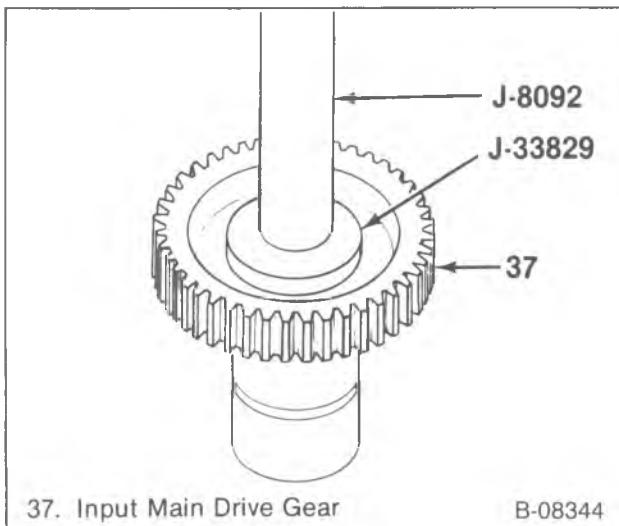
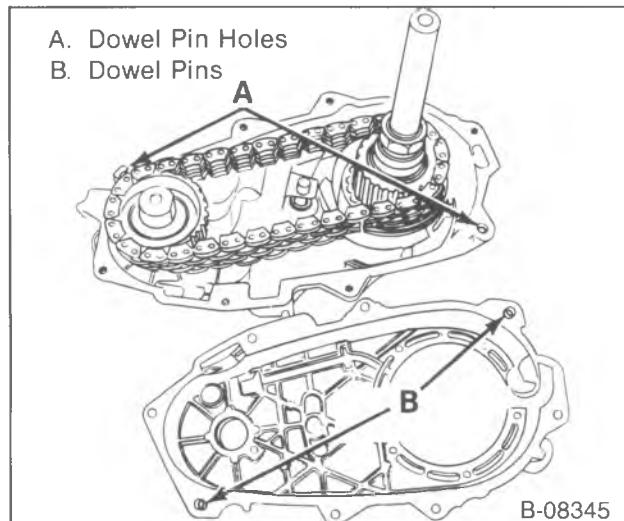

Figure 25—Input Main Drive Gear Pilot Bearing Installation
Figure 26—Dowel Pin Location
15. Pilot bearing (35) into the input gear (37) using J 33829 and J 8092. Press the bearing until the tool bottoms out (figure 25).
17. Input gear (37) in the transfer case.
18. Planetary gear thrust washer (34) on the input gear (37).
19. Range fork (66) on the planetary assembly.
21. Mainshaft (1) into the transfer case.
22. Mode fork (69) on the synchromizer sleeve (27). Rotate until the mode fork is aligned with the range fork.
23. Shift fork shaft (73). Slide the mode fork rail down through the range fork until the shaft is seated in the bore of the transfer case.
24. Drive chain (76) on the front output shaft (21) and the drive sprocket (32).
25. Front output shaft (21) in the transfer case. Slightly raise the mainshaft to seat the output shaft in the case.
27. Rear case (2) on the front case (44).
28. Case bolts (17).
- Install the two bolts with washers into the dowel pin holes (figure 26).